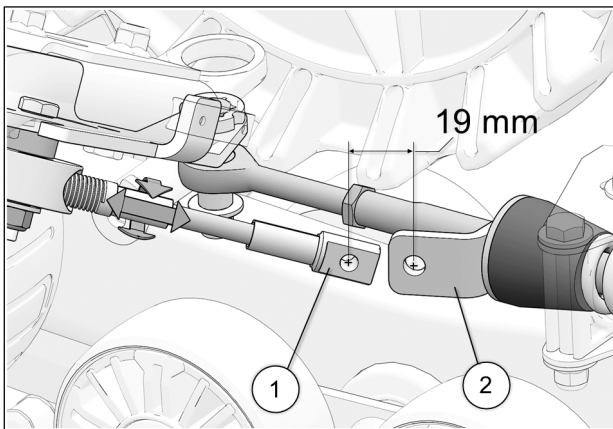

Fig. 26
16. Turn the vehicle's steering wheel to its maximum point of travel on the left. While maintaining pressure on the steering wheel, turn threaded rod to adjust length of cable. See Fig. 26
17. Position cable end hole (1) is located 19mm [$\frac{3}{4}$ in.] short of the mounting hole on the support plate (2). See Fig. 26